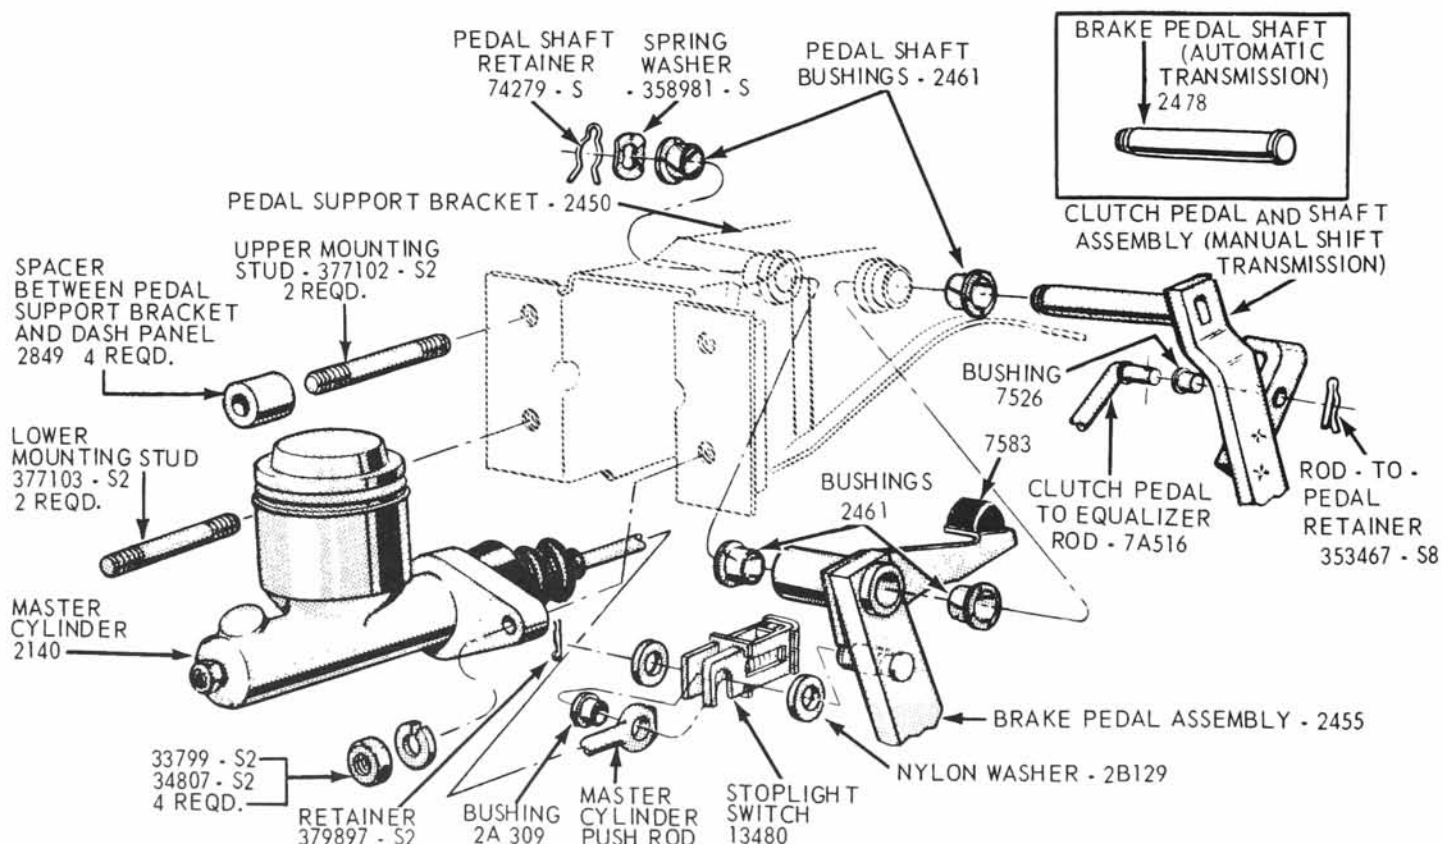

FIG. 15—Master Cylinder, Pedals and Stop Light Switch
3. Remove the nuts and lock washers that secure the master cylinder to the dash panel and lift the cylinder out and away from the push rod (Fig. 15). Remove the rubber boot from the push rod.
1. Disconnect the clutch pedal-to-equalizer rod at the clutch pedal by removing the hairpin type retainer and bushing (Fig. 15).
3. Remove the hairpin retainer. Slide the stop light switch off the brake pedal pin **just far enough for the switch outer hole to clear the pin**, and then lift the switch straight upward from the pin. **Be careful not to damage the switch during removal.** Slide the master cylinder push rod and the nylon washers and bushing off the brake pedal pin (Fig. 15).
4. Remove the hairpin type retainer and spring washer from the clutch and brake pedal shaft. Remove the clutch pedal and shaft, the brake pedal, and the bushings from the pedal support bracket (Fig. 15).
2. Position the brake pedal to the support bracket, then install the clutch pedal and shaft through the support bracket and brake pedal. Install the spring washer and retainer (Fig. 15).
dles the push rod with the switch slot on the pedal pin and the switch outer hole just clearing the pin. Slide the switch completely onto the pin, and install the nylon washer as shown in Fig. 15. **Be careful not to bend or deform the switch.** Secure these parts to the pin with the hairpin retainer.
2. Remove the hairpin retainer. Slide the stop light switch off the brake pedal pin **just far enough for the switch outer hole to clear the pin**, and then lift the switch straight upward from the pin. **Be careful not to damage the switch during removal.** Slide the master cylinder push rod and the nylon washers and bushing off the brake pedal pin (Fig. 15).
1. Apply a coating of Lubriplate to the bushings and locate all the bushings in their proper places on the pedal assembly and pedal support bracket (Fig. 15).
3. Install the inner nylon washer, the master cylinder push rod, and the bushing on the brake pedal pin. Position the switch so that it straddles the push rod with the switch slot on the pedal pin and the switch outer hole just clearing the pin. Slide the switch completely onto the pin, and install the nylon washer as shown in Fig. 15. **Be careful not to**